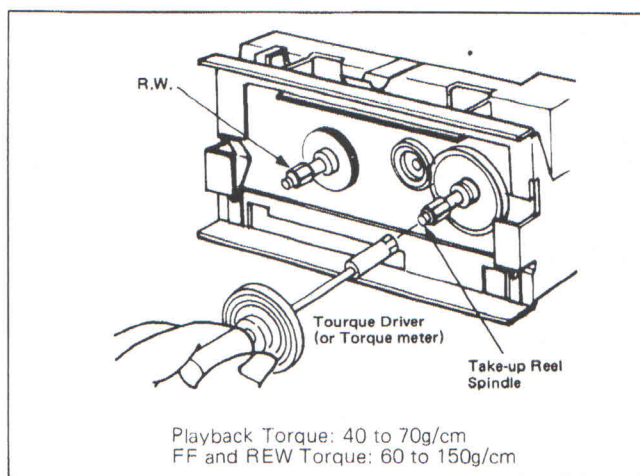

Fig. 3-3
1. Engage a Torque Driver or Torque Meter to the Take-up Reel spindle as shown in *Fig. 3-3*.